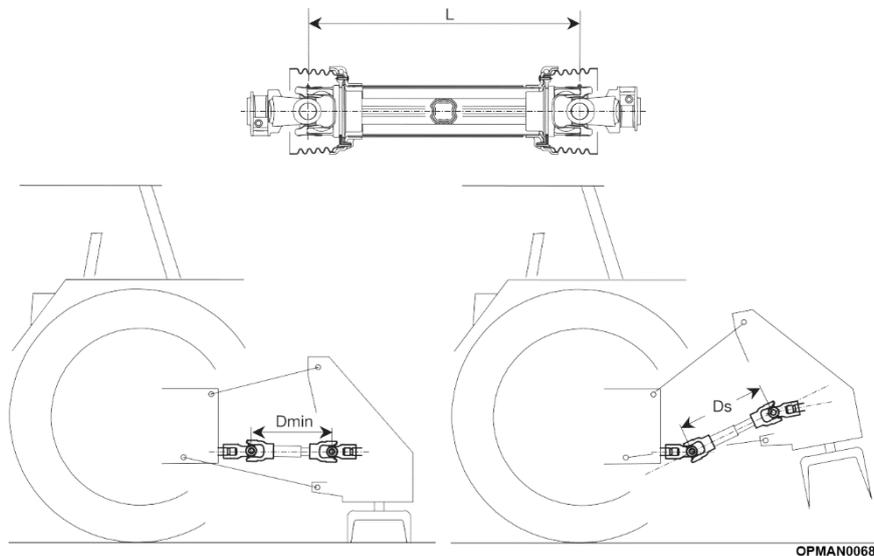

Figure 3.2 –Input Shaft Overlap
In order to determine the correct length of the finished driveline (L), hook the machine to the tractor, leaving the machine on the ground and proceed to install the two uncoupled/unprotected semi-shafts to their respective tractor/machine PTO's; see Figure 3.2. It is important that when fitting the two semi-shafts, the distance between the joints, " D_{min} ", is less than the original length " L " of the closed removed input shaft. This is so that the input shaft tubes aren't "bottomed". For guidance on fitting input shafts; see Section 4.4.1.
- 3.3.3.6 Check the length of the driveshaft at the minimum position to ensure the shaft will not bottom. See Figure 3.2 for guidance.